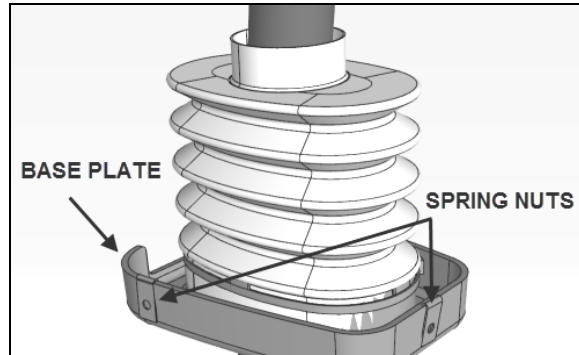

FIGURE 3 – L.H. AND FRONT SIDE
- 4) Install three (3) spring nuts #500684 as shown at the three existing holes found on the base plate (figure 3, 4 & 5).